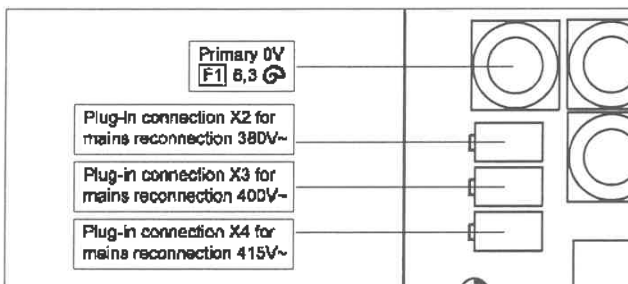

Fig. 5a 3x380V / 400V / 415V mains reconnection on the NSM2 auxiliary transformer board
The Magic Wave 200 may be operated as standard on a mains voltage of 3x380V / 400V or 415V, provided that the auxiliary transformer has been connected correctly for the operating voltage in question (Fig. 5a). Yellow-green lead = protective earth conductor (PE). The other conductors, L1, L2 and L3, are connected to three phases of the mains plug. The phase sequence is not important. Since the introduction of EuroNorm IEC 38 in May 1987, mains voltage has been defined as 400V throughout Europe.